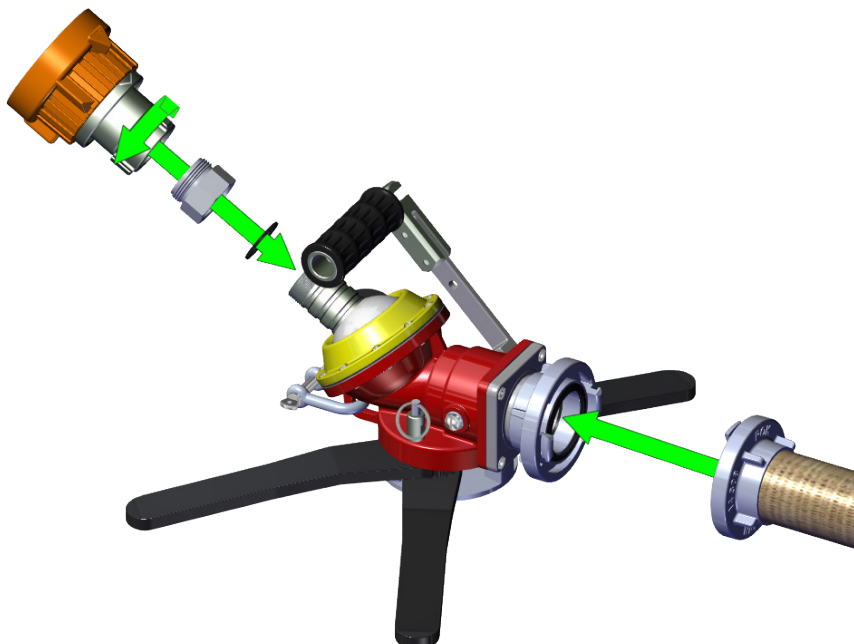

Fig. 7
- **1** - Connect the hand nozzle (not supplied) to the outlet of the base and connect the water inlet to the inlet of the base with a suitable coupling (Fig. 7).